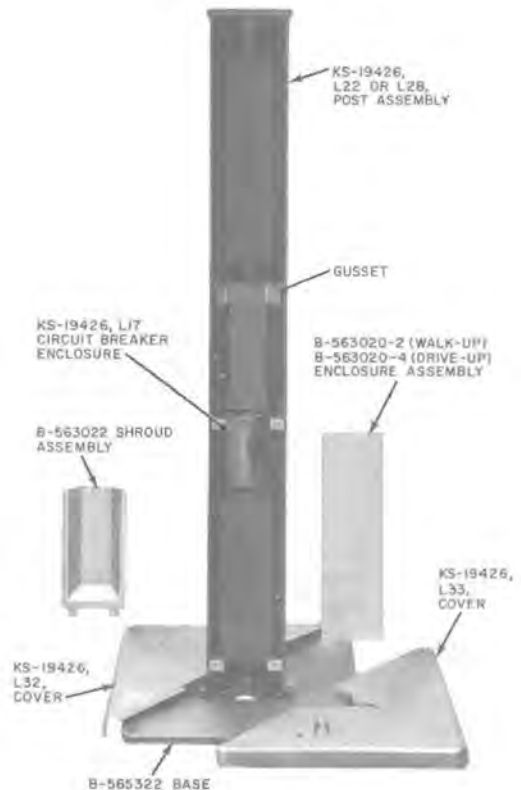

Fig. 9—Typical Pedestal Kit
2.13 A black angular steel post, with an aluminum cover on the flat front face, is available for walk-up or drive-up service (Fig. 9).
3.10 Loosen the tamperproof screws and remove shroud from the post(s) (Fig. 9).
3.11 Remove enclosure assembly (Fig. 9) from the post(s) by removing two 10-24 by 3/8-inch Phillips FHMS.